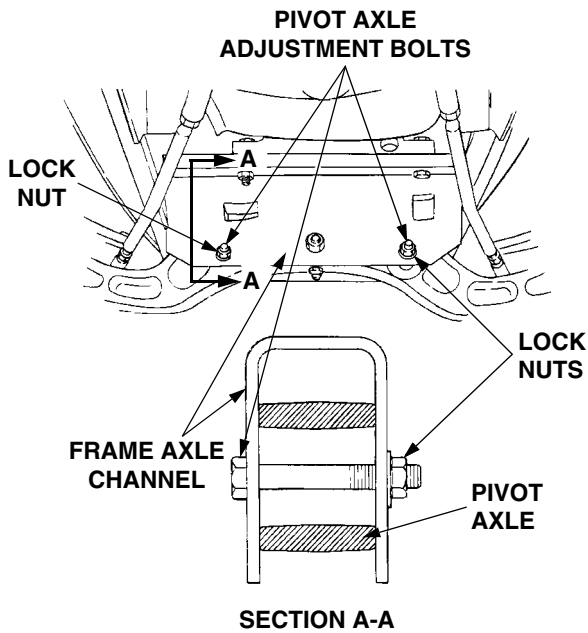

Figure 16
2. Pivot the ends of the axle up and down to check for binding. If the axle is binding, loosen the lock nuts (See Figure 16) until binding is eliminated.